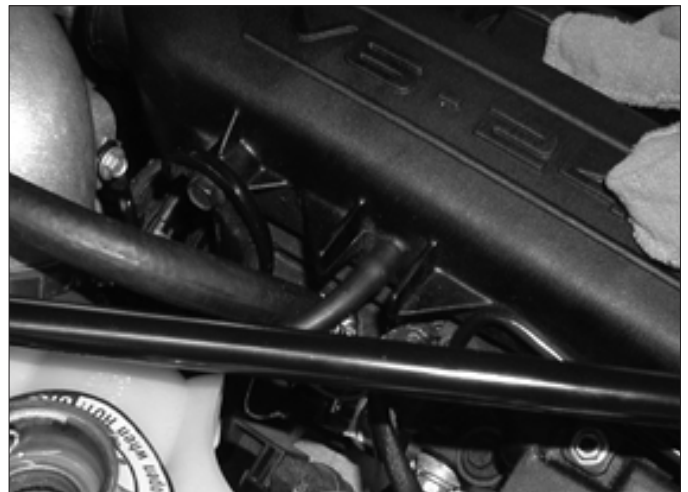

Fig. 11-2
- I. Connect the Vacuum Tube from the controller to the Intake Manifold Vacuum. This is done with the included adapter and line. You will have to remove a factory cap on the manifold to make the connection. (See Fig. 11-2.)